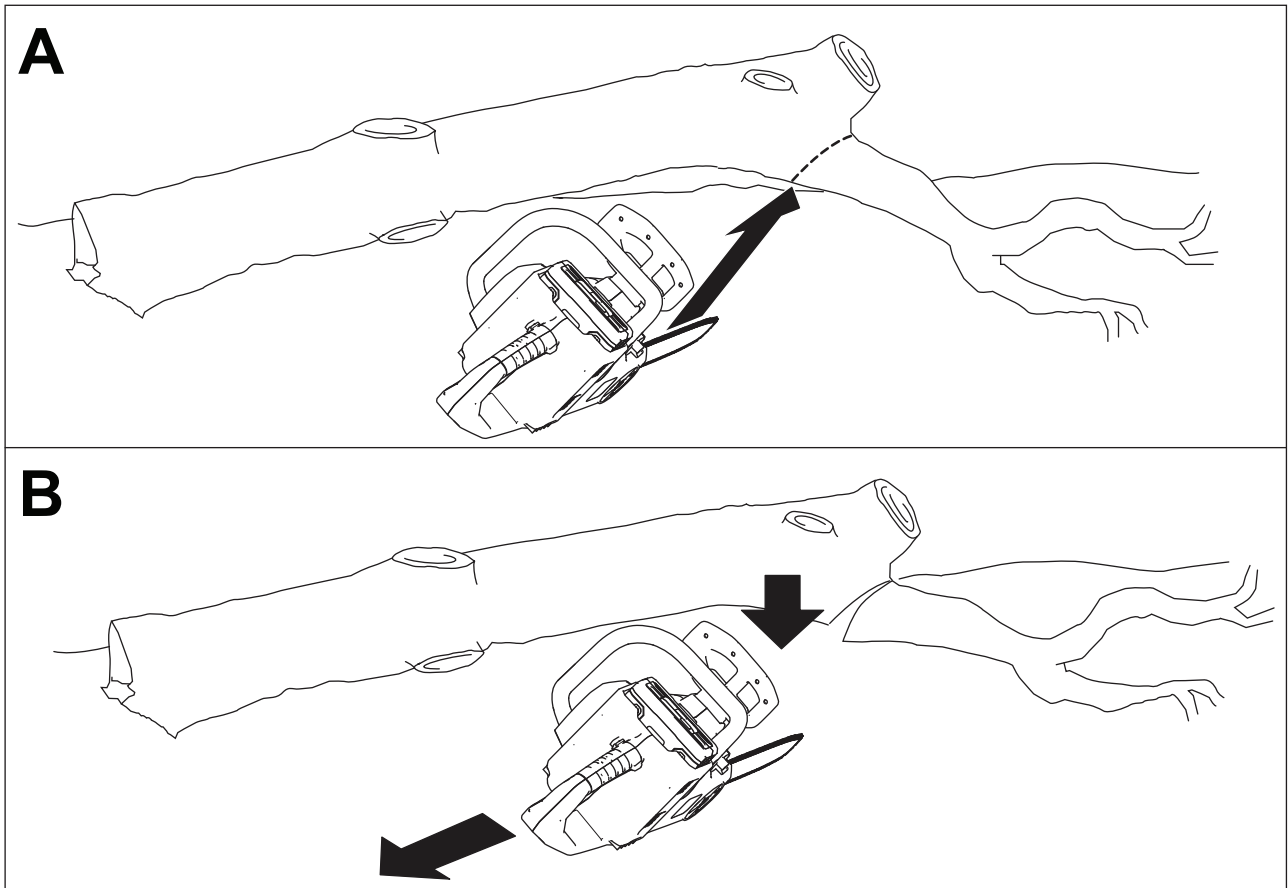

Figure 18
3. Cut the larger limbs that are support of the weight of the tree from the bottom upward so that the limbs do not pinch the saw blade (Figure 18).